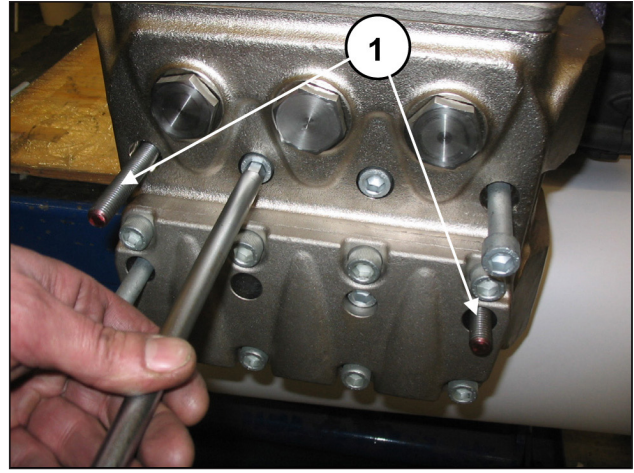

Fig. 42
- Unscrew the two external screws fixing the M12x160 head replacing them with two M12 threaded bars (Fig. 42, pos. ①) to avoid damaging the pistons, then remove the remaining screws.